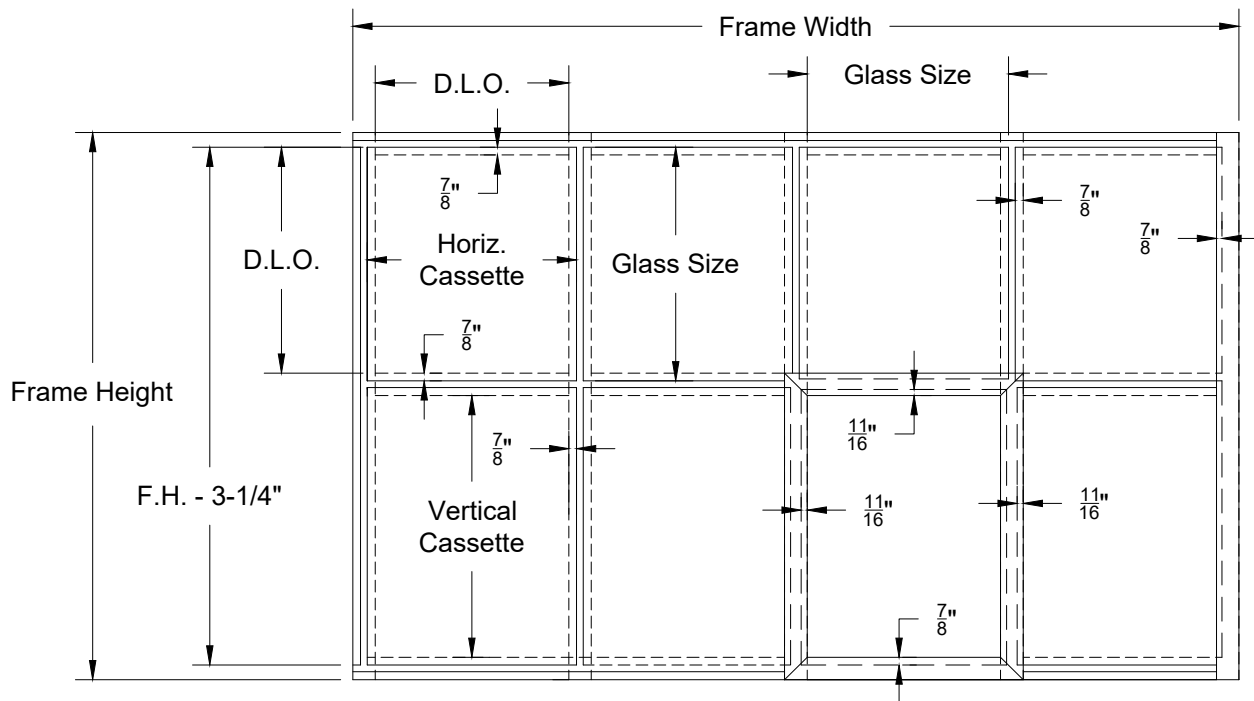
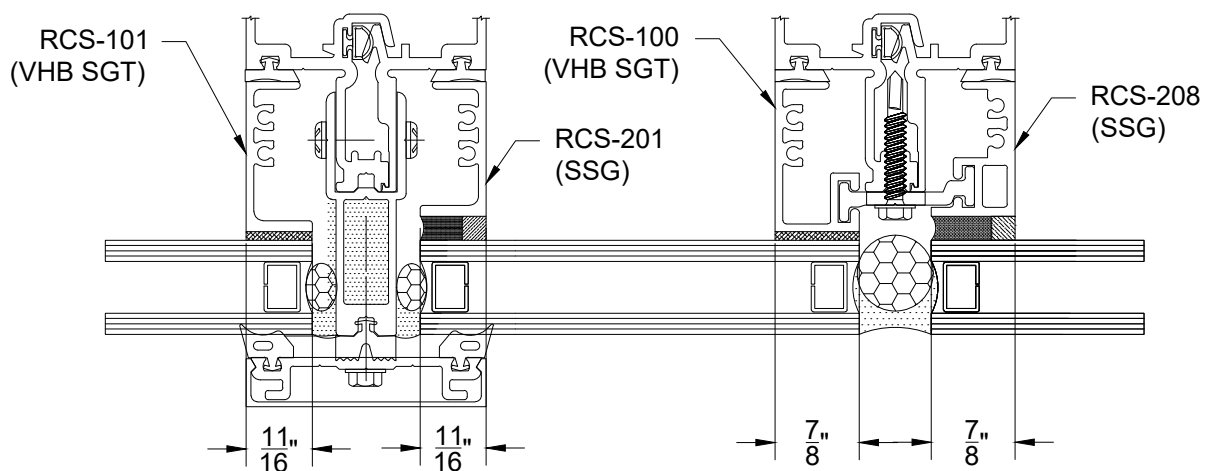

FIGURE 2
FIGURE 3
- 1.9 Cut material to size. SEE FIGURE 2, page 13 for guide. Glass bites and cut sizes are different for intermediate captured areas and typical 4-sided silicone glazed areas. Close attention to the layout for these areas is critical. SEE FIGURE 3, page 13 .
4-Sided bite = $\frac{7}{8}$ " Captured glass bite = $\frac{11}{16}$ " SEE FIGURE 2